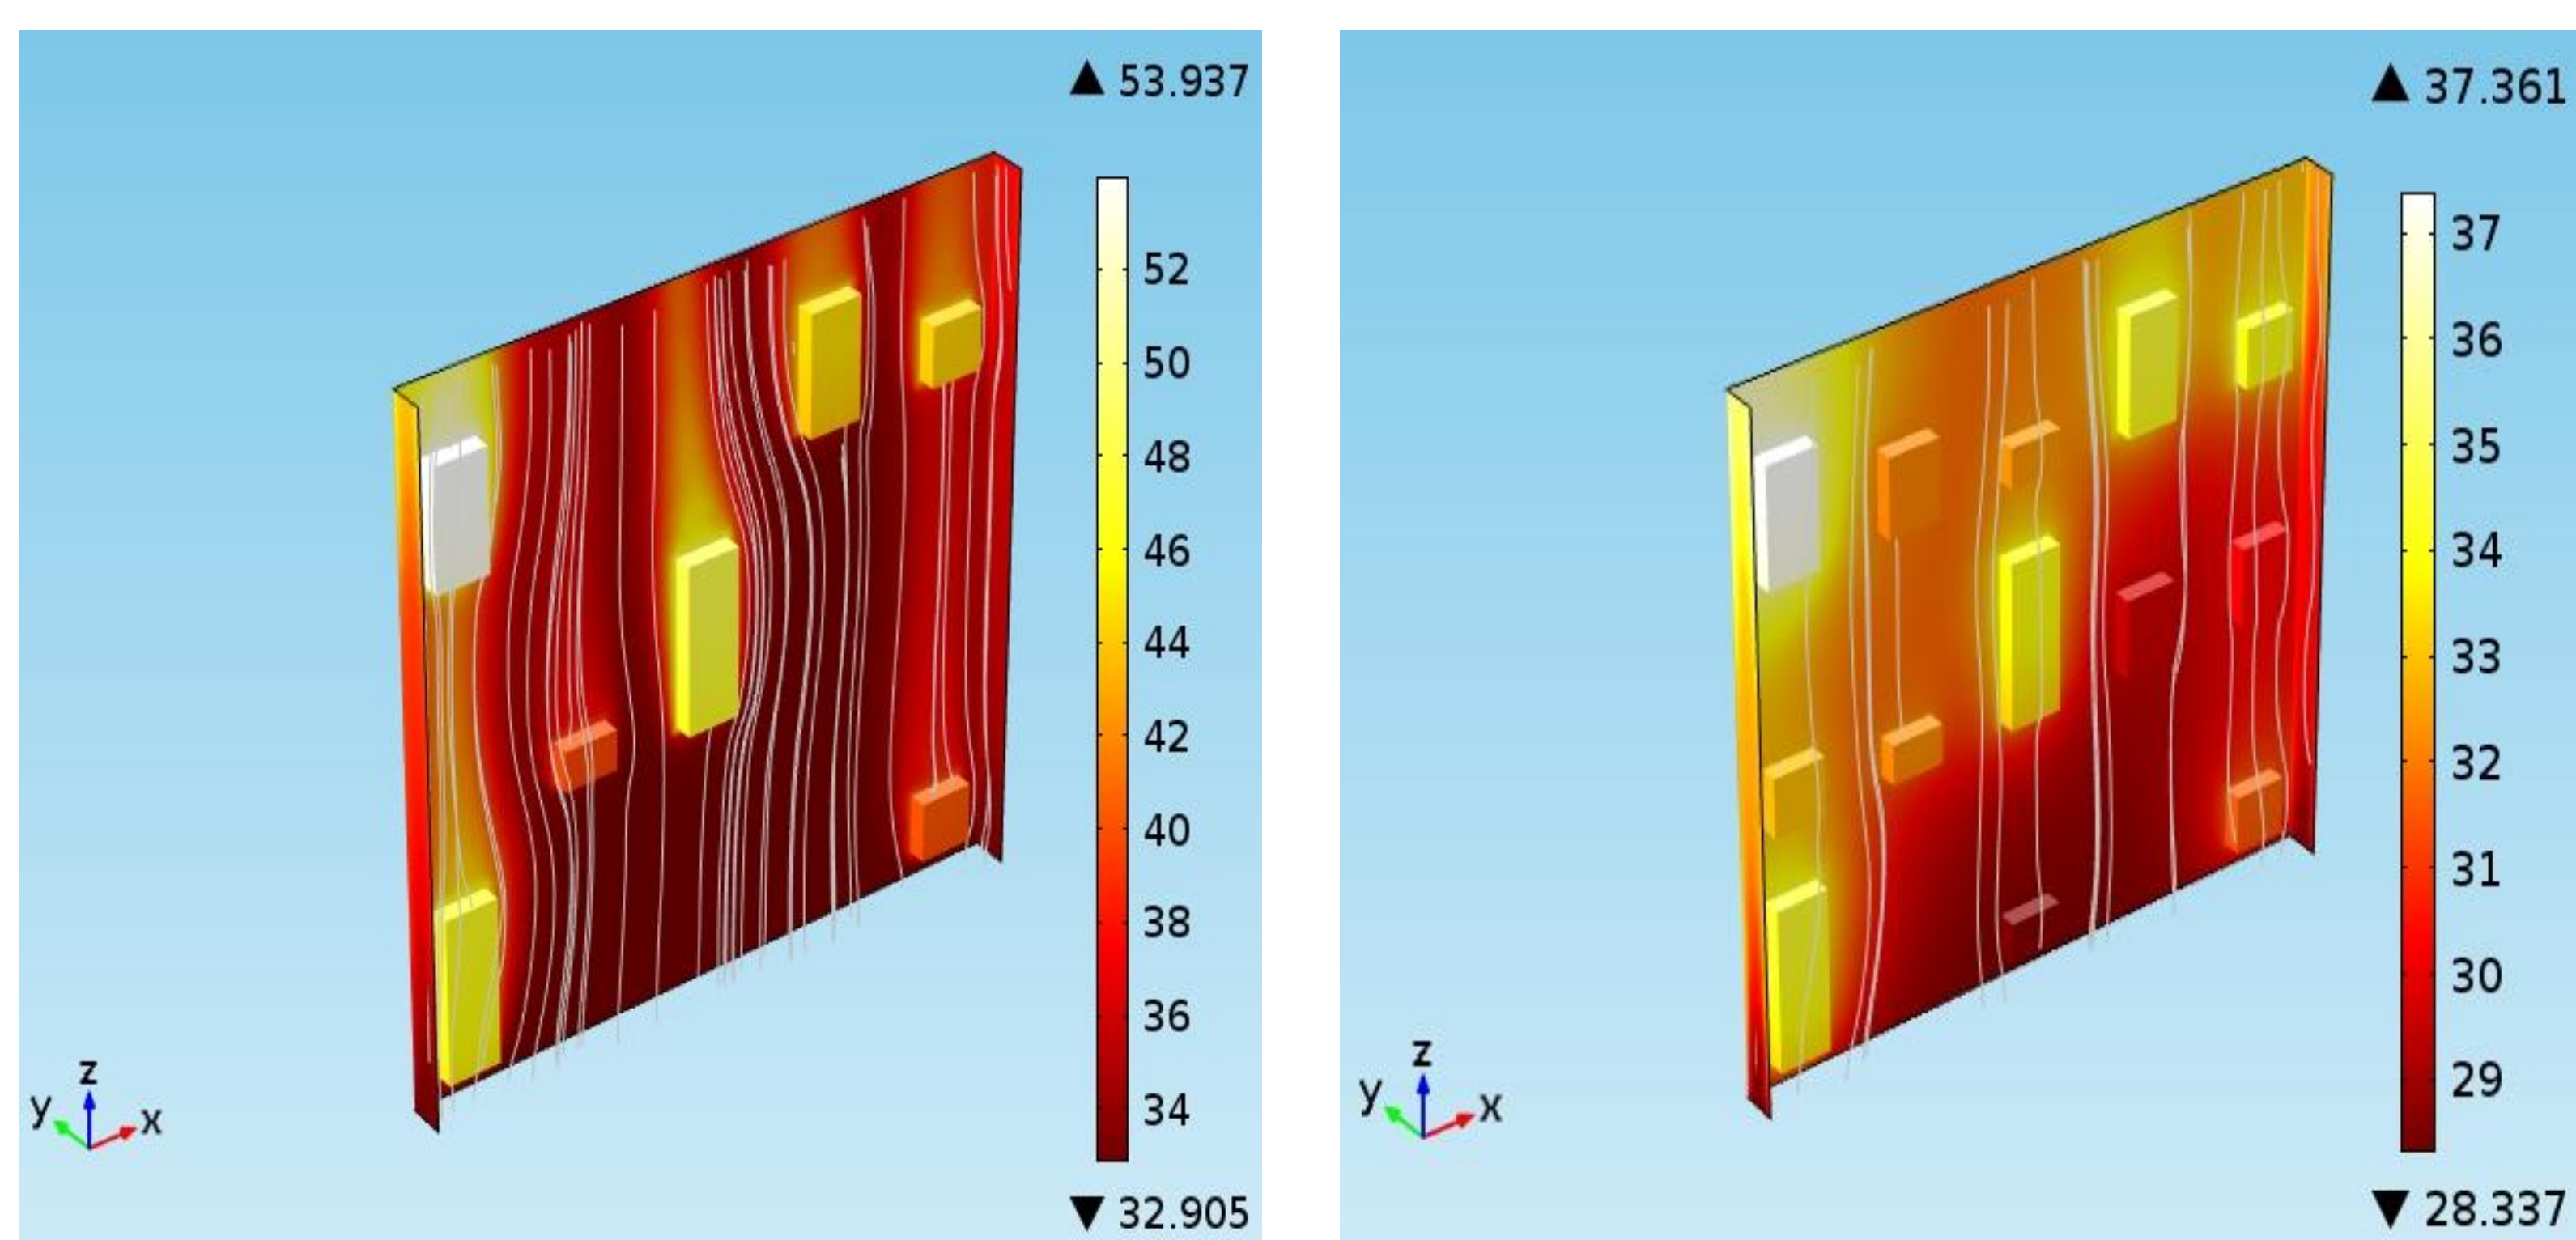

Figure 2. Temperature plot (a) bakelite without dummy and (b) Copper clad board with six dummy
**Results:** Fig.2 shows temperature plot for bakelite and copper clad board. Fig.3 is temperature contours. Table 1 gives the comparison of temperature using bakelite and copper clad board as substrate materials for same heat input.